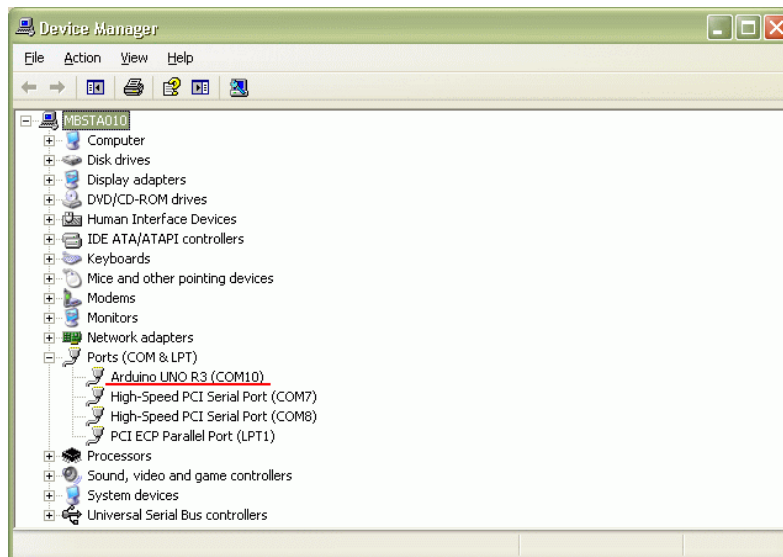

Figure 7: Determine the COM port number assigned to the Arduino UNO.
- To determine the specific COM port number that has been assigned by the PC to the evaluation kit, open the Windows Device Manager by right-clicking on *My Computer* and selecting *Properties* from the context menu, then select the *Hardware* tab, and click on *Device Manager*. Expand the *Ports (COM & LPT)* item and note the COM port number assigned to Arduino UNO R3; in Figure 7, the assigned COM port number is 10. Note this number, and then close the Device Manager and the System Properties windows.